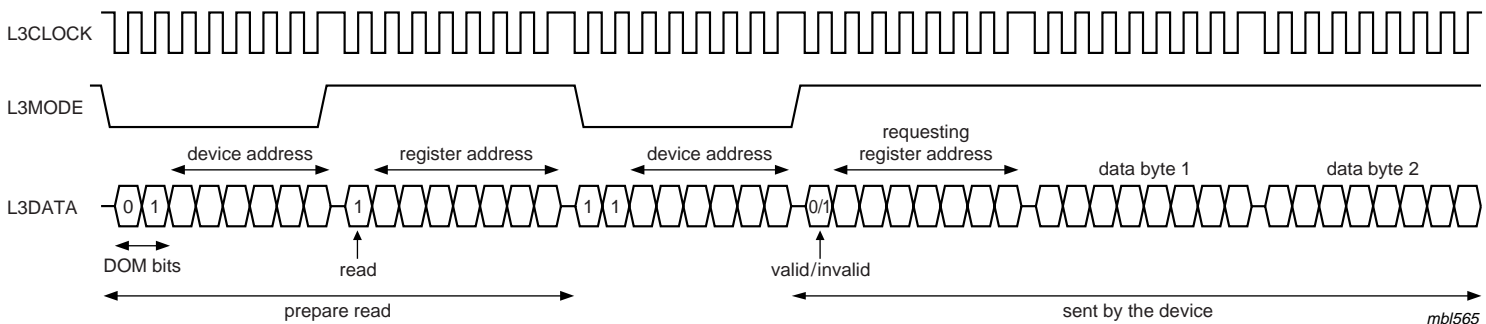

Fig 12. Data read mode
2. Addressing for prepare read: bit is logic 1, indicating that data will be read from the register (see Figure 12).
3. Addressing for data read action. Here, the device returns a register address prior to sending data from that register. When bit 0 is logic 0, the register address is valid; when bit 0 is logic 1, the register address is invalid (see Figure 12).
To read data from the device, a prepare read must first be done and then data read. The data read mode is explained in the signal diagram of Figure 12.